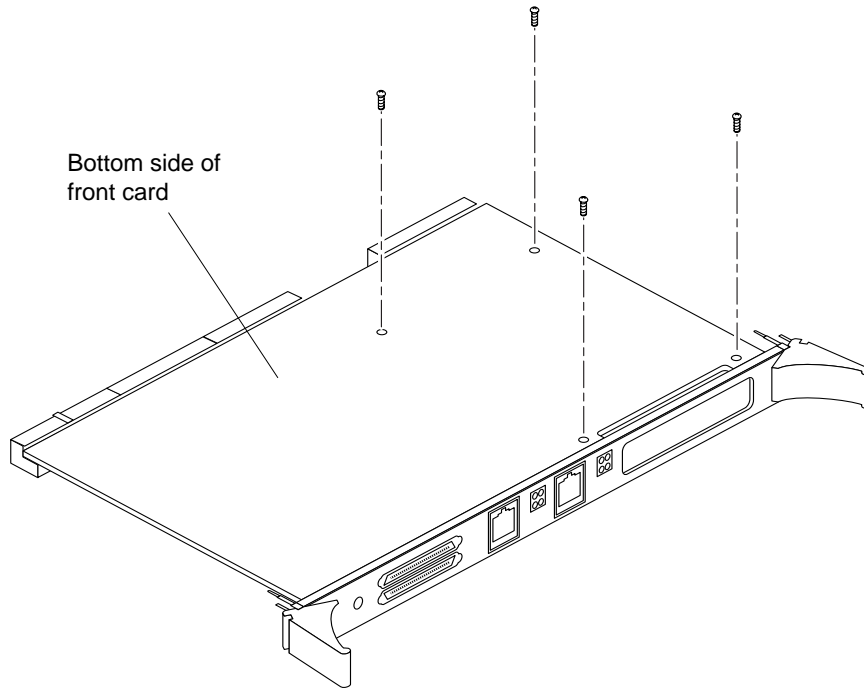

FIGURE 2-5 Securing the PMC Screws
10. Turn the front card over and use a screwdriver to secure the four screws that attach the PMC to the front card (FIGURE 2-5).